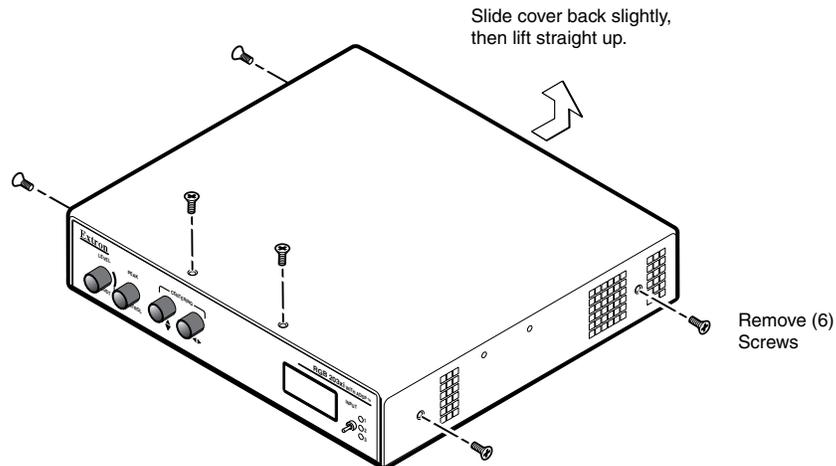

Figure 6. Removing RGB 203 Rxi Cover
1. Remove the three screws on each side and the two screws on top of the cover (see figure 6).